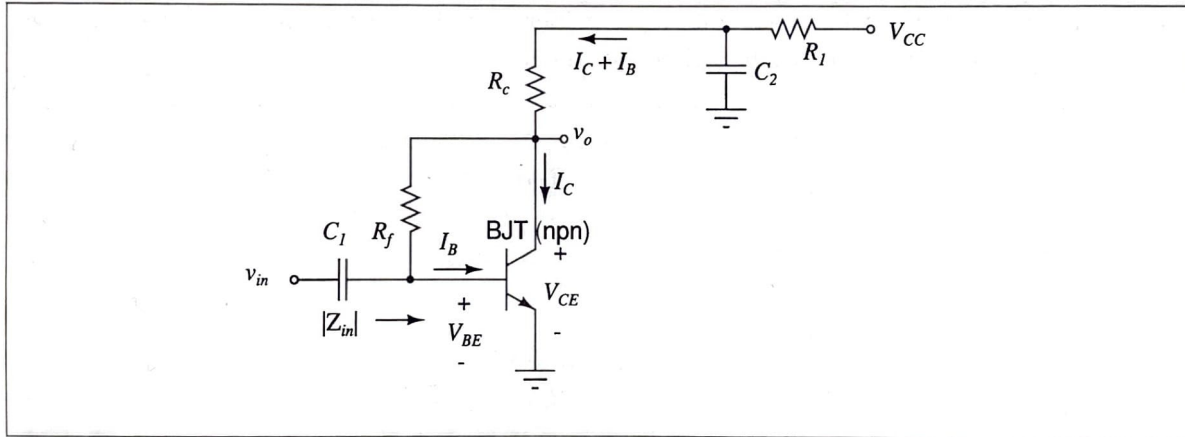

Figure 1: Schematic of an RF amplifier using a BJT.
1. An RF amplifier can be built using a BJT. Refer to the circuit given in Fig. 1. TRC-11f uses two of such amplifiers. The values of the resistors and capacitors should be calculated as described below.
A schematic diagram of the first IF amplifier is given in Fig. 1. Mount the three leads of